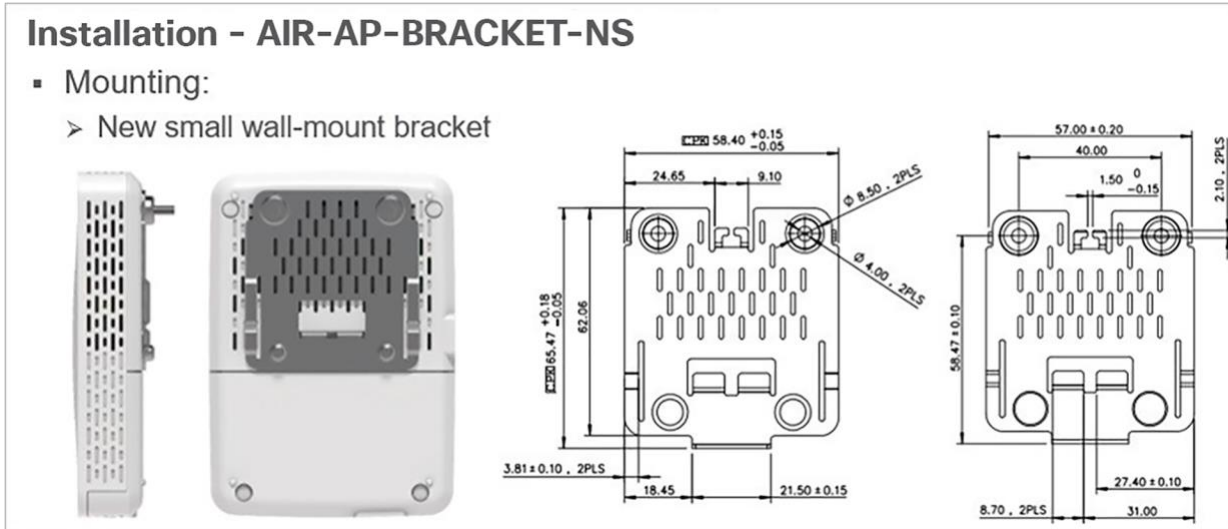

Figure 6.
- Due to its small size, the sensor uses a specially designed metal-based wall-mount bracket (part number AIR-AP-BRACKET-NS) (**Figure 6.**).